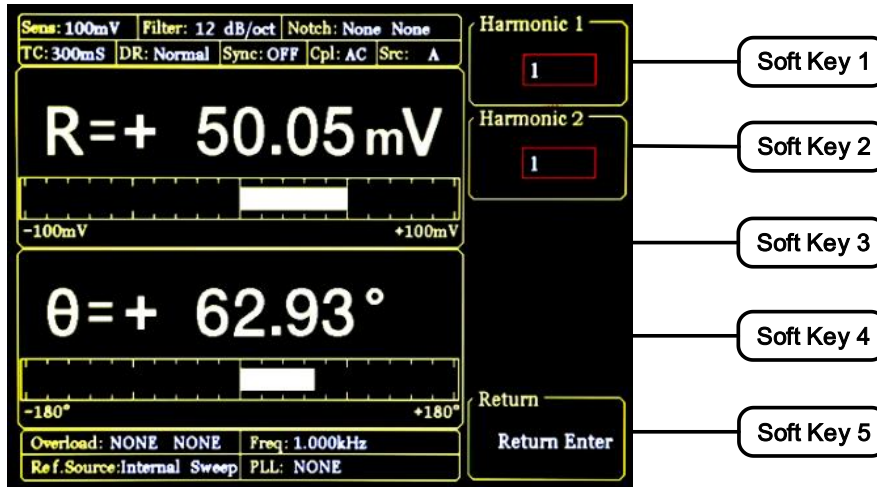

Fig.100 Harmonic Secondary Submenu
First, press the [soft key 4] to choose harmonic function in [REF PHASE] submenu and enter <Harmonic> secondary submenu, as is shown in Fig.100.